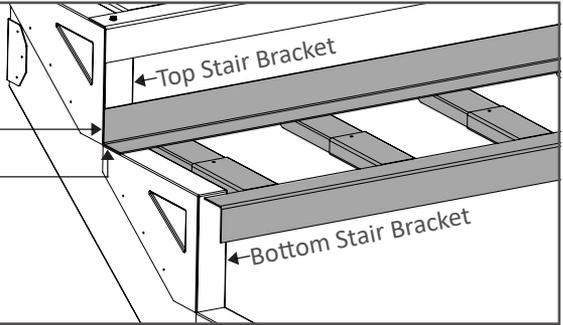

Fig. 10
3. Using Evolution Self-Drilling Screws, fasten the top lip of the stair tray onto the top face of the Stair Brackets. As shown in Fig. 10.